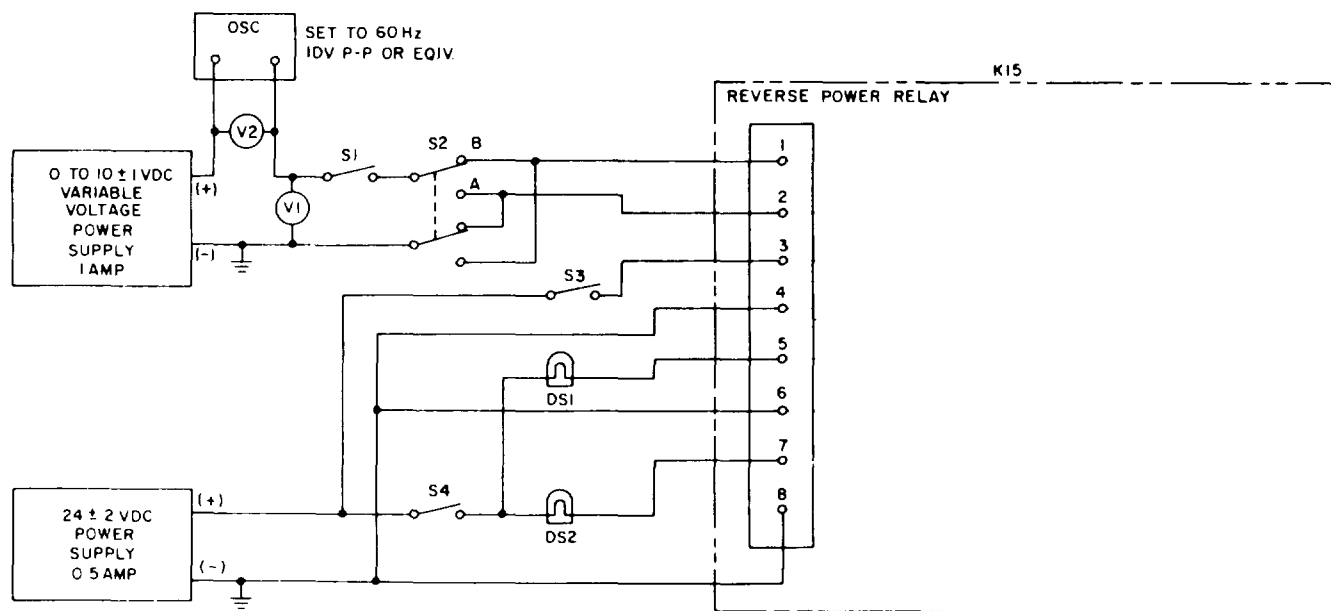

Figure 6-43. Reverse power relay (K15) test setup
a. Connect the reverse power relay to the test equipment as illustrated in figure 6-43.